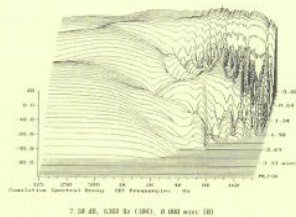
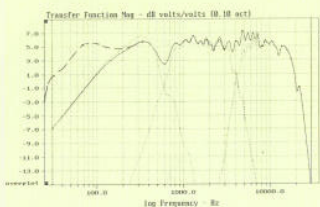

Fig 2: Spendor SP9/1: response at 2m, axial (solid trace); 15° vertical (dotted trace); 30° lateral (dashed trace); 45° lateral (long dash)
Fig 3: Spendor SP9/1: room averaged response (top trace); impedance, 2 ohms/div, base line zero (lower trace)
speaker should sound neutrally balanced. The bass was genuinely extended to 30Hz, -6dB, and this speaker will reach 27Hz under a typical room loading. Up to 50W of pure low frequency input was tolerated showing good linearity and effective low frequency loading. That big port didn't impart significant distortion. Examining the family of forward responses [Fig 2] in the lateral plane, as well as above and below axis, the most variation was due to listener or microphone height. Below axis that small suckout developed at the lower crossover (B) while above axis another, less severe one appeared at the upper crossover point (A). These compared well with the fine integration in the lateral direction. Given the expanded vertical scale for this graph, these were good results, especially for a large enclosure like this one. Fig 3 shows the room averaged response, notable for its even and extended bass, its slightly forward upper mid range (just audible) and the smooth treble, with the correct upper range roll-off or 'house curve'. Moving on to the energy/time response, decay of